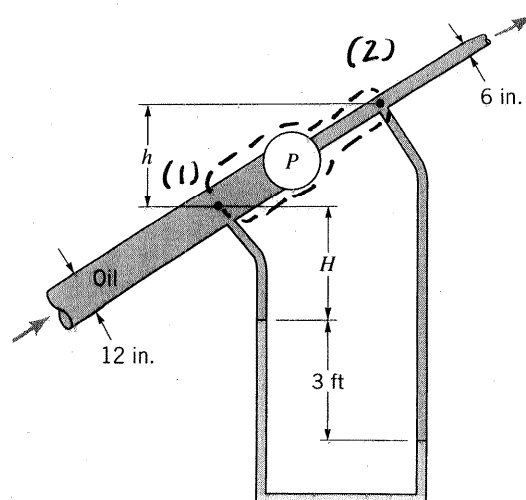

FIGURE P5.122
5.122 Oil ($SG = 0.88$) flows in an inclined pipe at a rate of $5 \text{ ft}^3/\text{s}$ as shown in Fig. P5.122. If the differential reading in the mercury manometer is 3 ft , calculate the power that the pump supplies to the oil if head losses are negligible.